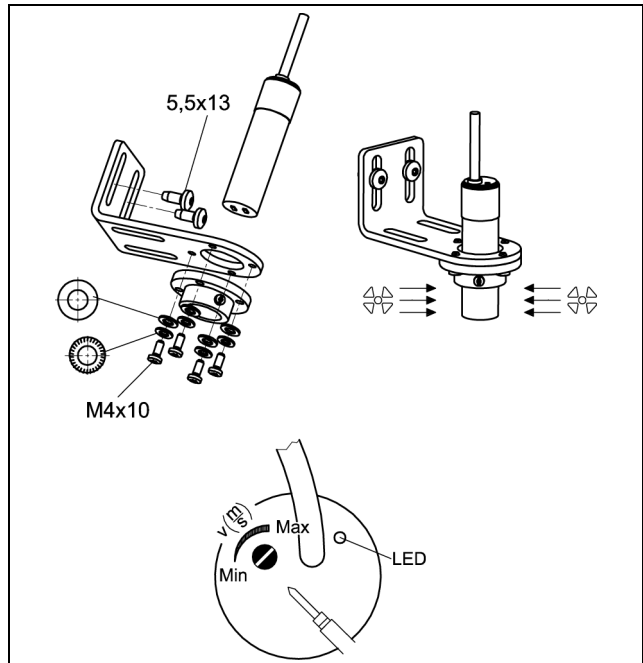

Fig. 2: Installing the sensor probe
- First attach the bracket included in the scope of delivery to the sensor probe holder (fig. 2).